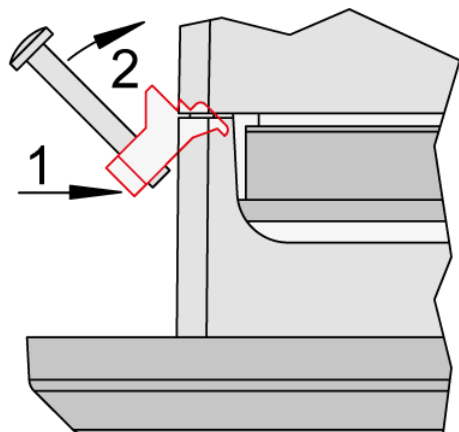

Fig. 13: Attach clamp inserts
5. ➔ Re-install the clamp inserts by tilting the insert to a 45° angle. (Fig. 13/1) Insert the nose of the insert into the slot on the side of the housing. (Fig. 13/2) Raise the clamp insert so that it is parallel to the control panel.